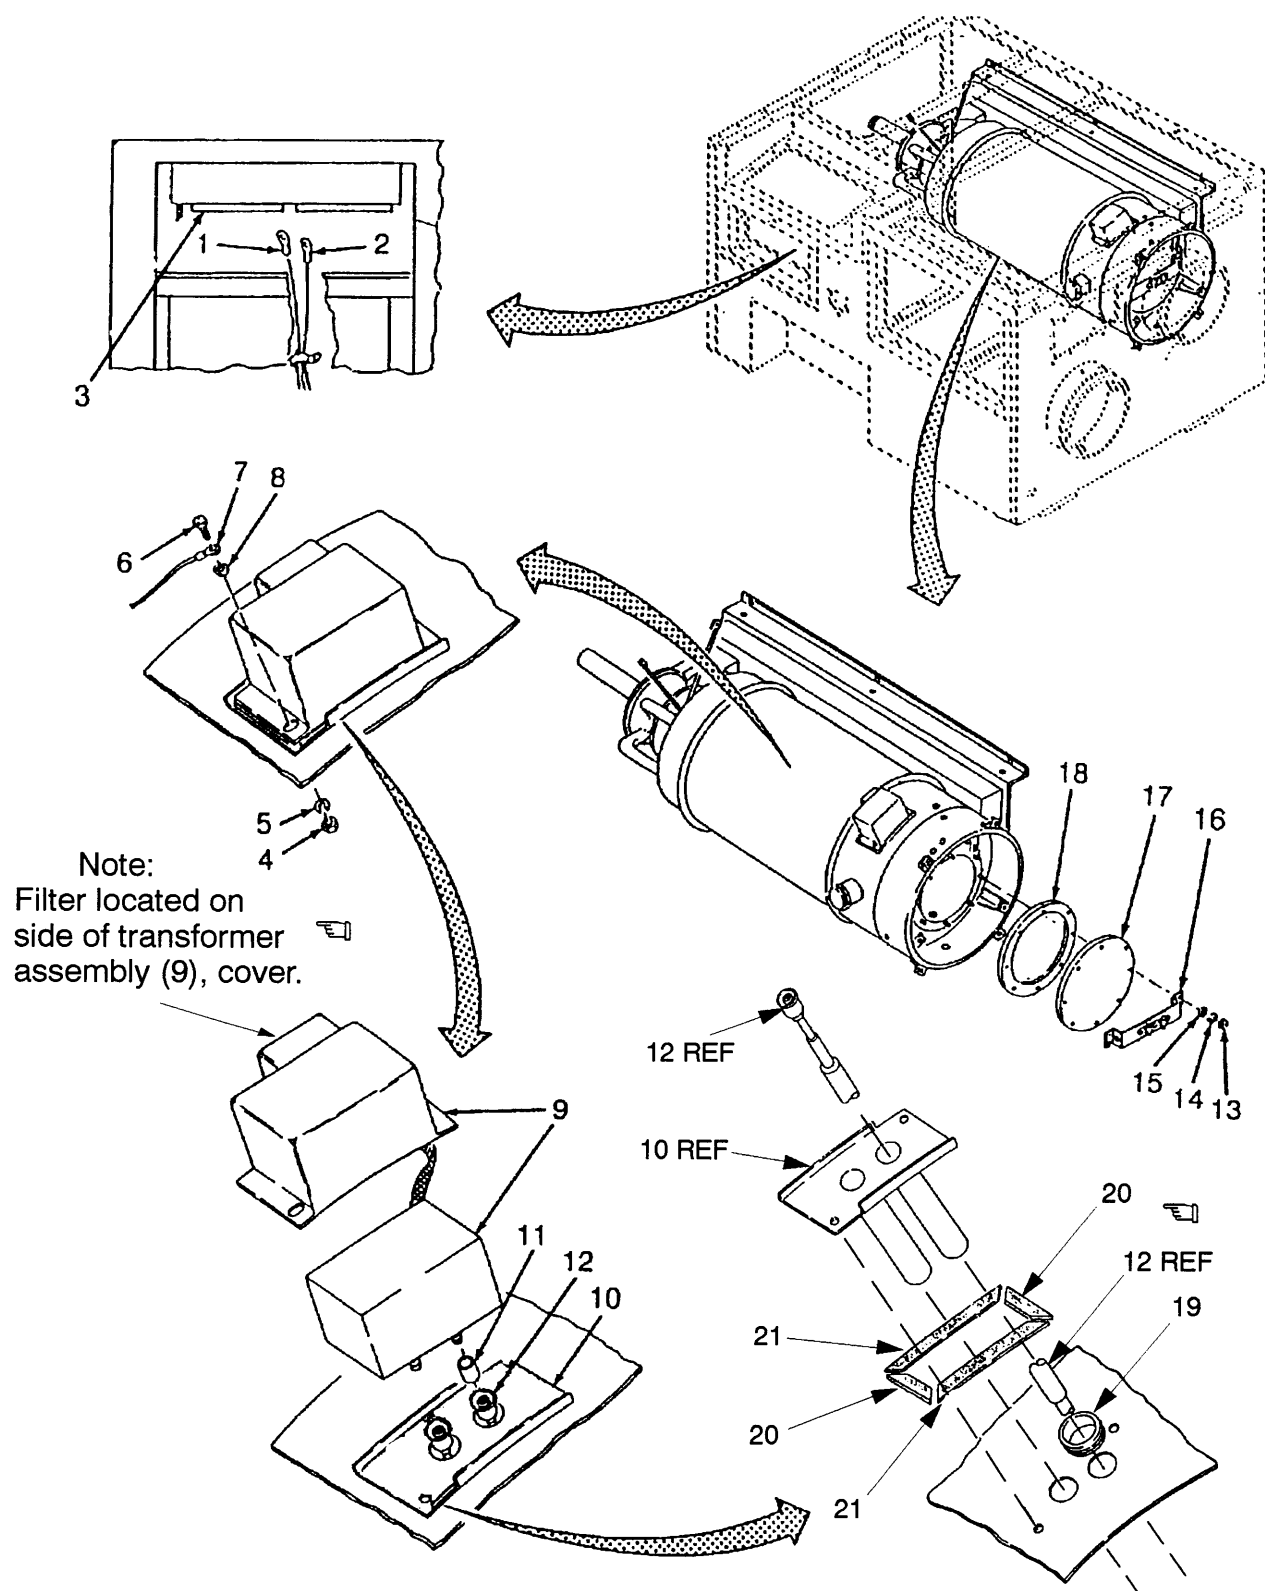

Figure 4-57. Transformer, (Model H120) Removal
**The transformer assembly used on model H120, has the filter attached to side of transformer assembly cover. (Refer to Figure 4-57)**
## a. Removal (Refer to Figure 4-57)
**The transformer used on model H120-1, does not have a filter attached to the side of the transformer cover, (Ref to Fig 4-57).**